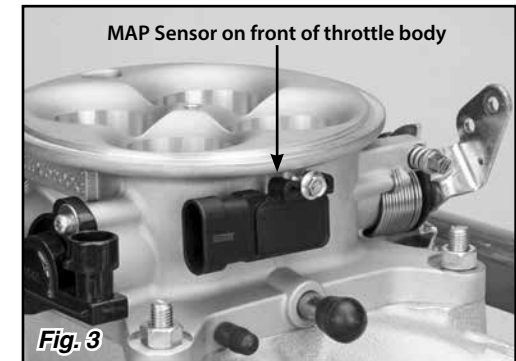

Fig. 3
Step 1: Verify that you are working on a late version of the Pro-Flo 4 Throttle Body, with the MAP sensor mounted directly onto the front of the throttle body. Fig. 3